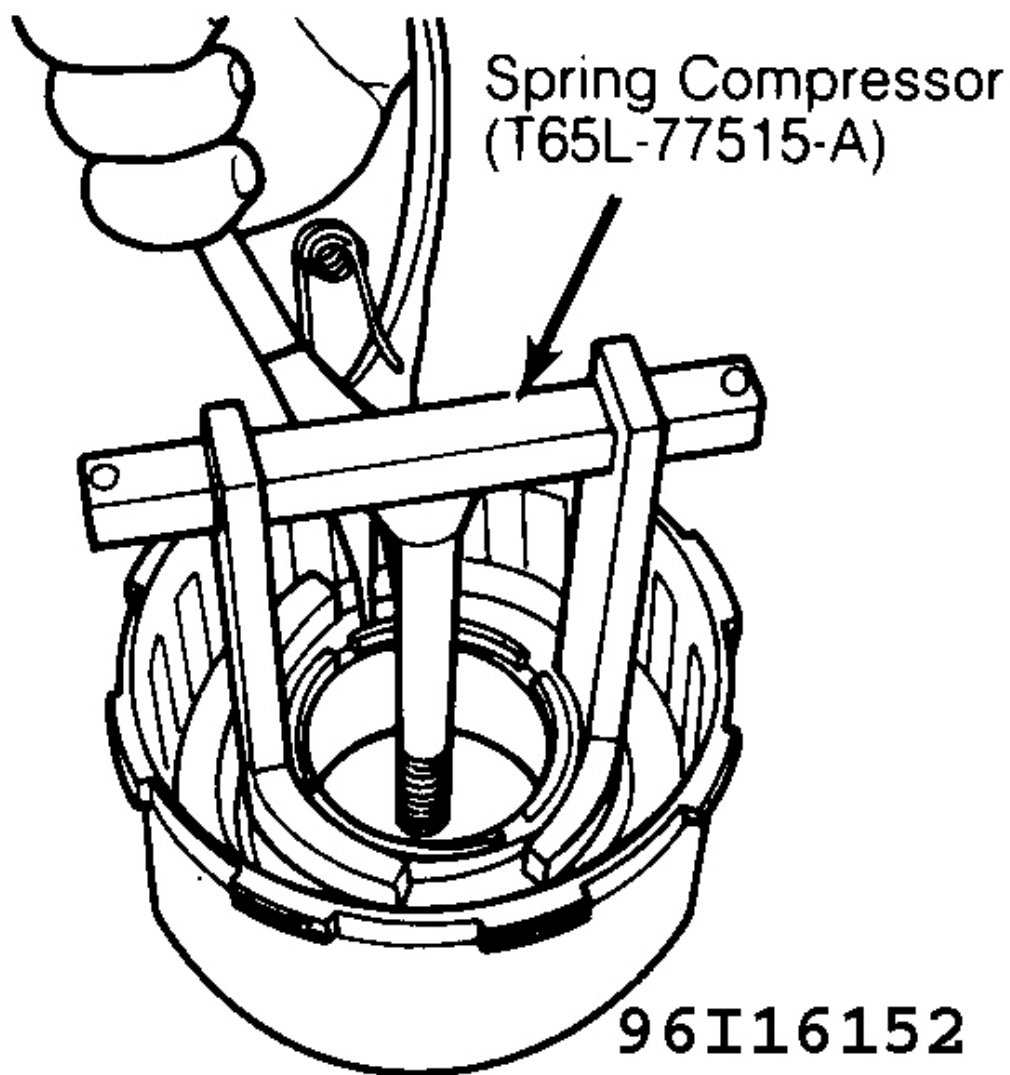

Fig. 21: Compressing Piston Return Springs & Retainer
1. Remove large pressure plate retaining ring. Remove pressure plate and clutch pack. Using Spring Compressor (T65L-77515-A), compress piston return springs and remove small retaining ring. See **Fig. 21**. Carefully release pressure on springs.